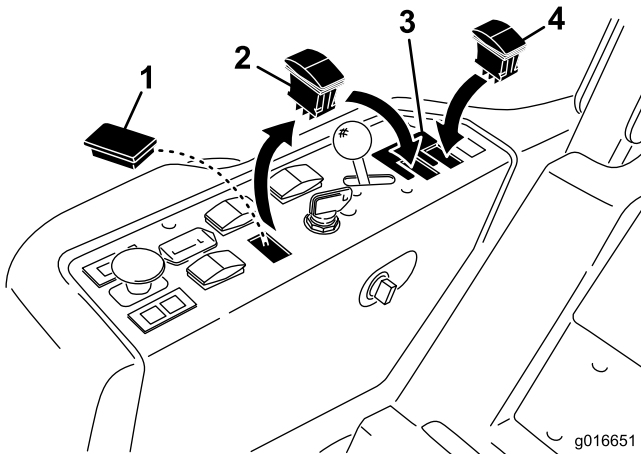

Figure 4
- For a machine with a cab: Remove the (2) fasteners that secure the access panel and remove the access panel.
- For a machine without a cab: Remove the (5) fasteners that secure the control panel cover and remove the control panel cover.
- Locate the (2) knockouts, under the decal, on the rear of the control panel (Figure 4).
- Remove the (2) knockouts from the control panel (Figure 4).
- Affix the new decal onto the control panel in the location shown in Figure 4.
new **front** hole location shown in Figure 4. Plug the harness back into the switch.
- Install the switch, included in kit, in the new **rear** hole in the control panel (Figure 4).
- Install the plug in the vacated hole in the control panel (Figure 4).